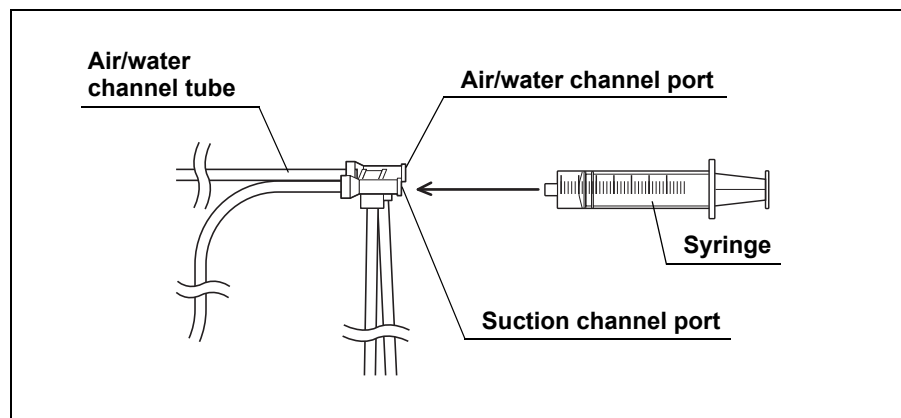

Figure 5.37
8. Attach the syringe to the suction channel port of the injection tube and flush the suction channel with 90 ml of air. (See Figure 5.37)
2. Attach a clean 30 ml syringe to the suction channel port of the injection tube and forcefully flush the suction channel with 180 ml of the disinfectant solution – i.e., by pumping the syringe at least six times. Confirm that no air bubbles exit the distal end of the endoscope's insertion section during the sixth flush. If air bubbles still exit, flush the channel with the disinfectant solution until no air bubbles exit. (See Figure 5.37)
3. Attach a sterile 30 ml syringe to the suction channel port of the injection tube and flush the suction channel with 90 ml of air – i.e., pump the syringe at least three times. (See Figure 5.37)
5. Attach a sterile 30 ml syringe to the suction channel port of the injection tube and flush the suction channel with 90 ml of the rinse water – i.e., pump the syringe at least three times. (See Figure 5.37)